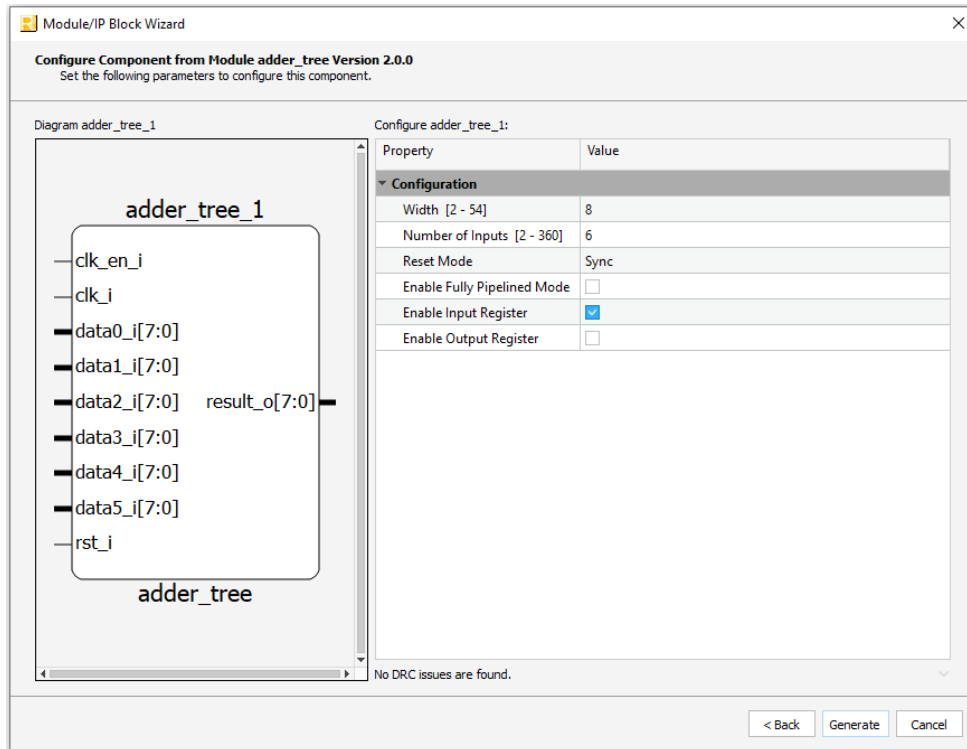

Figure 3.2. Configure User Interface of Adder Tree Module
4. In the module's dialog box, customize the selected Adder Tree module. A sample configuration is shown in Figure 3.2. For configuration options, see the Attribute Summary section.
IP Generation, Simulation, and Validation	<ul style="list-style-type: none">• Removed “Licensing the IP” section.• Updated title of the Section 3.1 from “Generating and Synthesizing” to “Generating the IP”.• Added Figure 3.2. Configure User Interface of Adder Tree Module.